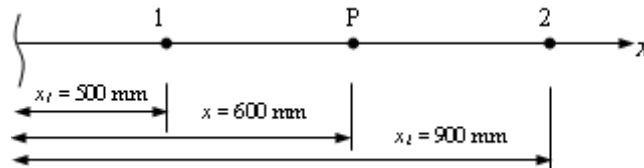

Figure 1
3. The plane truss shown in figure 1 is composed of members having a square 10mm x 10mm cross section and modulus of elasticity $E = 90 \text{ GPa}$. Compute the nodal displacements in the global coordinate system for the loads shown. Also, compute the axial stress in each element. [16]
- b) Evaluate the natural coordinate ξ , shape function N_1 and N_2 at point P shown in figure 1. If $q_1 = 0.075$ mm and $q_2 = -0.125$ mm determine the value of displacement q at point P. [6+10]